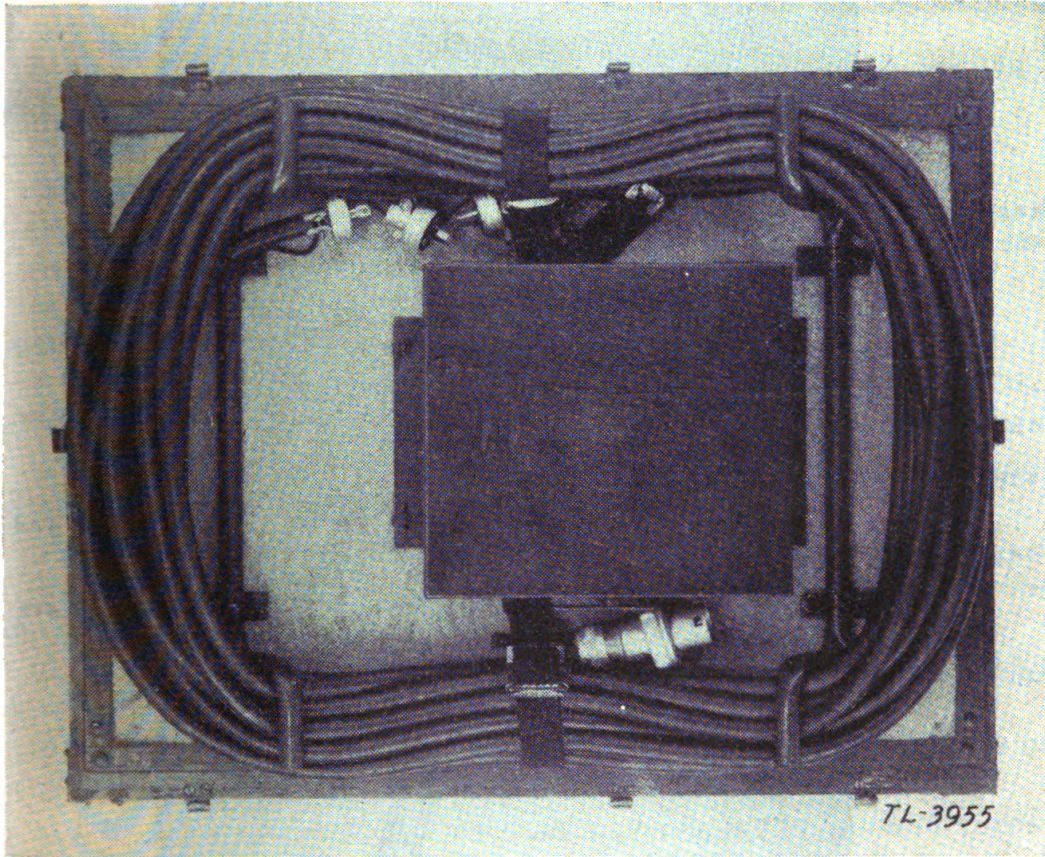

FIGURE 6.—Method of fastening cords to top of case.
(2) Release catches holding top to sides and remove. Also release catches on end; lift up to remove. Then take off sides.
(3) Remove fuel tank cap, tip unit, and drain tank.
(4) Replace sides and then ends, making sure that all sections marked with stripe are at front, or engine end.
(5) Attach power cords, if supplied, to top (see fig. 6). Also attach tool box to top, if previously removed.
(6) Replace top. Make sure all catches are right and dowel pins in catches, if furnished.
*b. Unit operated out of case.*—(1) Disconnect power cord or cords.